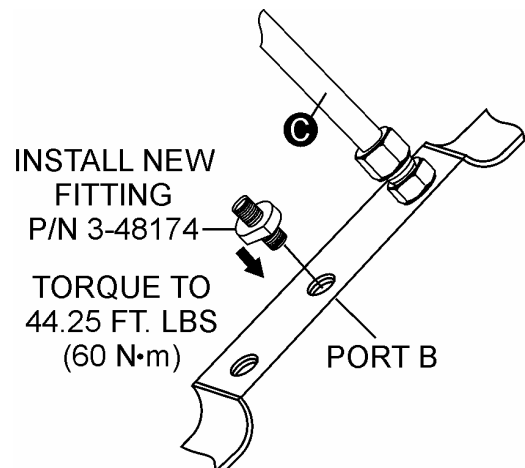

Figure 10. New Fitting Installation
- Install new fitting P/N 3-48174 into **port B** as shown in Figure 10.